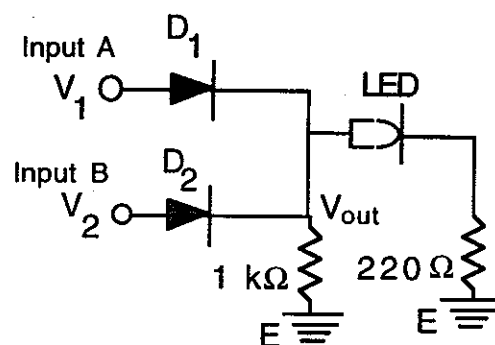

Fig. 3b
The schematic diagram of an OR gate is shown in Fig. 3b. In this case, if both input voltages are zero, the output voltage V_{out} is zero. When either of the input voltages are positive, one of the diodes is conducting. Consequently, V_{out} becomes positive and the LED lights up. Making the other input voltage positive does not alter the situation. This is how an OR gate operates.
- (d) Make the circuit as shown in Fig. 3b using the breadboard. Connect the power supply (+ 5V) across row B at the top of the breadboard and the ground (negative of the power supply) to row A at the bottom. Connect one diode between a2 and a5 (silver end) and the other diode between c1 and c5 (silver end). Connect the 1 K Ω resistor between e5 and f5. Connect the 220 Ω resistor between d5 and d7 and the LED between e7 and f7. Connect j7 and row A (at the bottom). Input A is applied at b2 and input B, at d1.